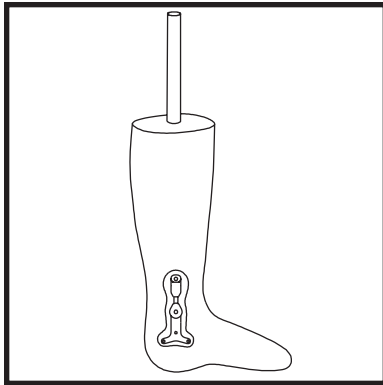

Figure 3: Outline of PolyCar-C™
5. Cut two (2) pieces of teflon sheeting 3/4" oversize using the supplied precut PolyCar-C™ as a pattern. Cut the 3/4" hole in the Teflon to match the precut PolyCar-C™.
6. Outline the PolyCar-C™ pattern on the cast as shown in Figure 3. Coat this area with Poly Adhesive.